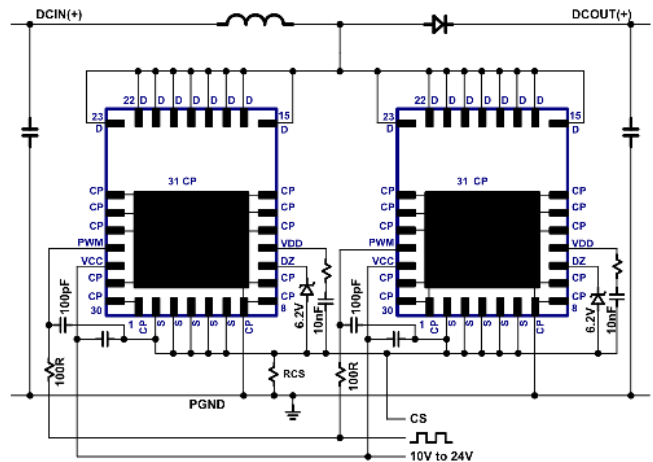

Fig. 25. Boost schematic using two parallel ICs
For some applications it is desirable to parallel ICs in order to reduce conduction losses and temperatures. Two GaNFast power ICs can be connected in parallel in a PFC boost application working in boundary-conduction mode (BCM) only. The parallel configuration for two GaNFast power ICs is shown in Fig. 25. The paired pins that are connected together include the drain pins (D), the source pins (S), the V_{CC} pins, the PWM pins, and the D_Z . A single D_Z diode can be shared by both ICs. The V_{DD} pins are not connected together and require separate V_{DD} supply capacitors (C_{VDD1} , C_{VDD2}) and separate turn-on current set resistors (R_{DD1} , R_{DD2}). Each IC should have its own local V_{CC} supply filter capacitor (C_{VCC1} , C_{VCC2}). The PWM pins can have a single filter resistor (R_{PWM}) but separate filter capacitors (C_{PWM1} , C_{PWM2}) should be placed at the PWM pin of each IC. When designing the PCB layout for the two paralleled ICs, the drain and source connections should be made as symmetrical as possible two avoid any parasitic inductance or capacitance mismatch.